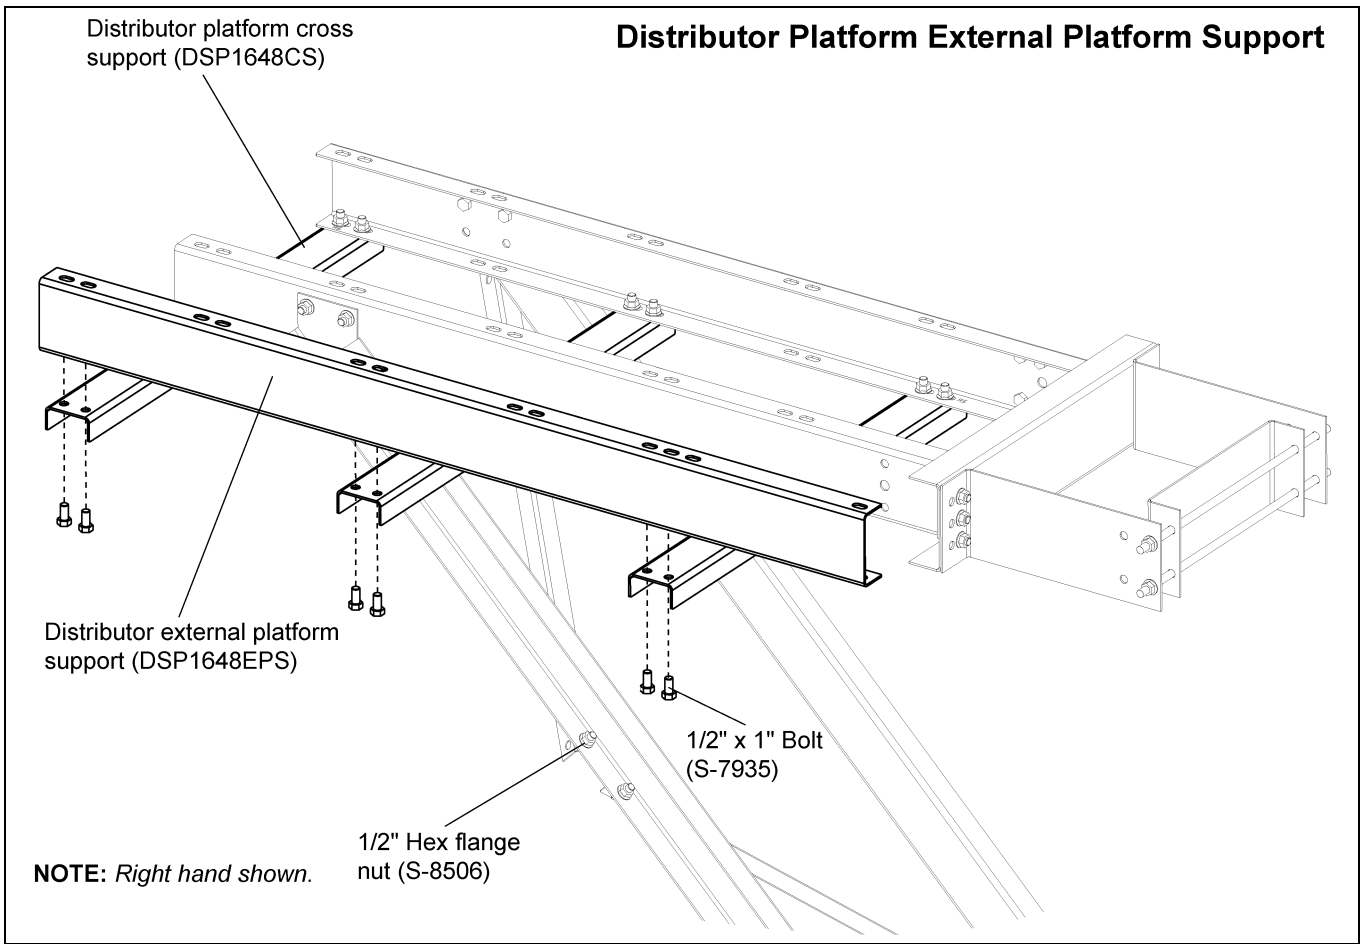

Figure 12C Distributor External Platform Support
3. Assemble the external platform support (DSP1648EPS) to the end of the three (3) cross supports using six (6) 1/2" x 1" bolts and nuts. (See Figure 12C on Page 91.)